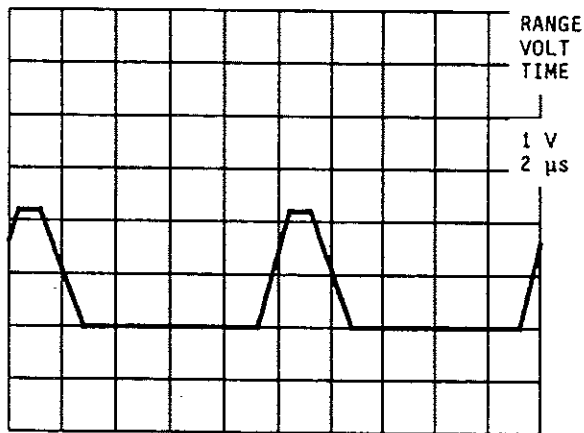

Fig. 5-3 Voltage at P19
- * Signal at P19: see Fig. 5-3